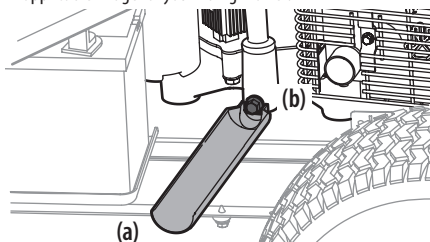
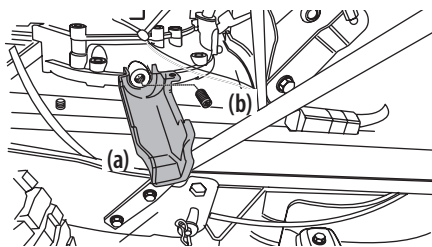

Figure 23
Figure 24
5. Snap the small end of oil drain sleeve (a) onto the space provided around the oil drain plug (b). See Figure 23 or Figure 24 for the two possible oil drain sleeves and refer to the applicable image for your riding mower.